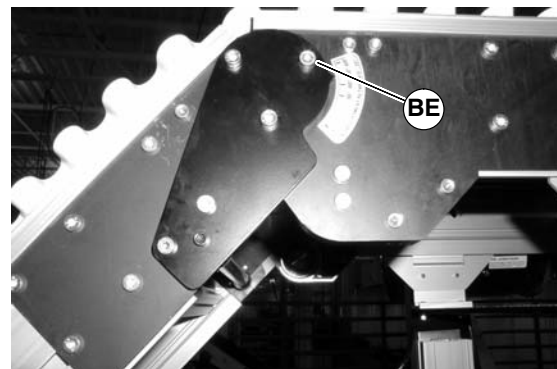
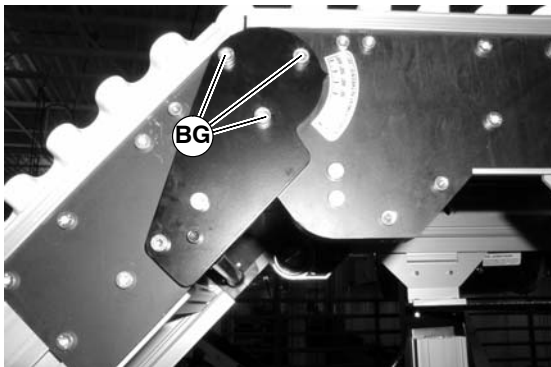

Figure 45
Figure 47
1. Conveyor is shipped from factory locked in the flat position, to unlock conveyor knuckle remove the gold screw (BE of Figure 45) on both sides of the conveyor.
3. Loosen screws (BG of Figure 47) on both sides of knuckle.
5. Tighten screws (BG of Figure 47) on both sides of knuckle to 100 in-lbs (12 N-m). If applicable, replace the gold locking screw (BE of Figure 45).
5. Tighten screws (BG of Figure 47) on both sides of knuckle to 100 in-lbs (12 N-m).